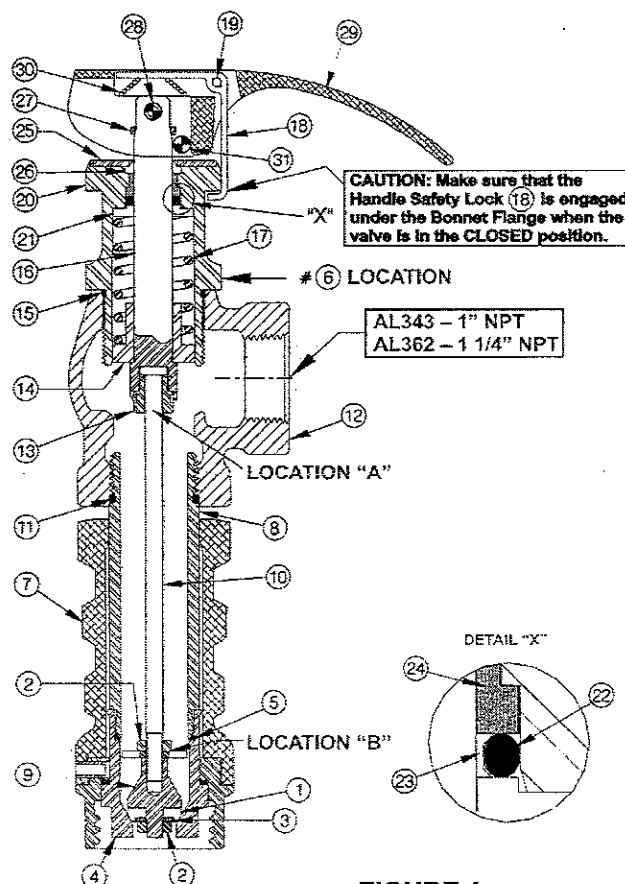

FIGURE 1
Removal of Valve for Repair or Replacement (Refer to Figure 1 for Item Numbers)
Disassembly Procedure for Repair (Refer to Figure 1 for Item Numbers)
1. At Location "A" of FIGURE 1, the Stem Extension ⑩ must rotate freely inside the Stem Extension Guide Nut ⑮ and have a small amount of end play inside the bore of the Stem ⑩. This interface is mechanically crimped and cannot be disassembled.
2. At Location "B" of FIGURE 1, the Disc Holder ⑨ should be shouldered snug against the Hex Jam Nut ②.
Assembly Procedure (Refer to Figure 1 for Item Numbers)